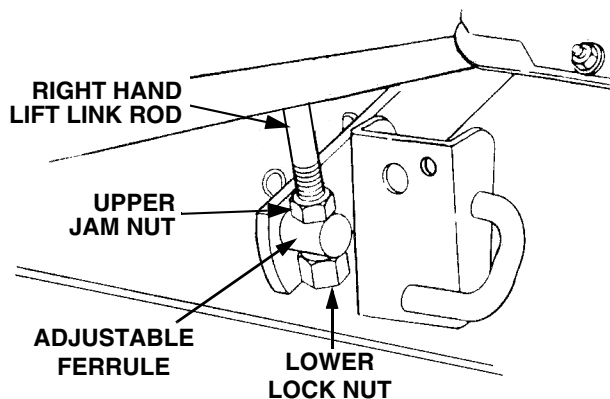

Figure 30
8. Side-to-side leveling is obtained utilizing the adjustment ferrule and right hand lift link rod (See Figure 30).
9. Loosen the upper jam nut on the lift link rod and turn away from the adjustment ferrule. Turn the lower lock nut upward (tighten) on the threads of the rod to raise the right side of the mower deck. Turn the lock nut down (loosen) on the threads to lower the right side of the mower deck (Refer to Figure 30).